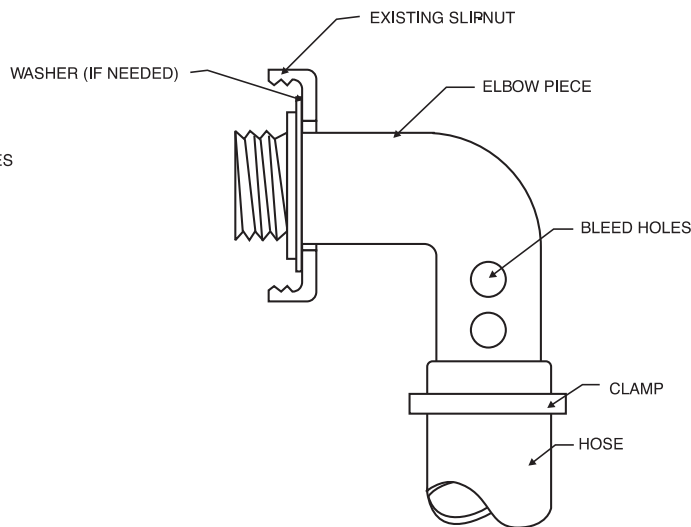

FIGURE 3
3. Refer to Figure 1.Uncoil the hose (3) and remove all twist. Using clamps (15), clamp one end of the hose to the back side of the fountainhead (1) and the other end to the inlet adapter from step 2. Cover one set of bleed holes with the hose (Fig. 3). To tighten clamp, grasp "tabs" between thumb and forefinger and squeeze. Tighten securely with a pair of pliers. to open the clamp, grip one "tab" of the clamp with pliers and twist loose.
4. Using the tie wrap (14), LOOSELY attach the anchor (4) to the hose (3). The anchor (4) should be attached to the hose (3) at a point as deep as the water plus approximately two feet. You will have to estimate what the water depth is where you want the fountain and add two feet. CAUTION: DO NOT CONSTRICT THE HOSE BY TIGHTENING THE TIE WRAP (14) TOO TIGHT.
5. Attach the inlet adapter to the pool inlet by screwing the slip-nut back on (Fig. 3).
6. Place the fountain assembly into the pool. Position the fountain in the desired location being careful not to crimp the hose (3).
Height adjustment is achieved by covering more or less of the bleed holes (Fig. 3) on your elbow piece (6) with the hose (3). The more holes covered, the higher the fountain and vice versa.